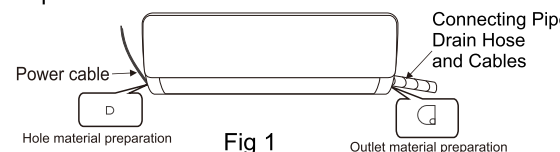
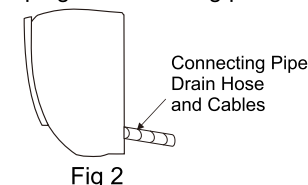

Fig 1
Fig 2
1. Depending on the position of the unit, the piping may be routed sideway from the left or the right ( Fig 1 ), or vertically from the back( Fig 2 )(depending on the pipe length of the indoor unit). In the case of sideway routing, cut off the outlet cutting stock of the opposite side.